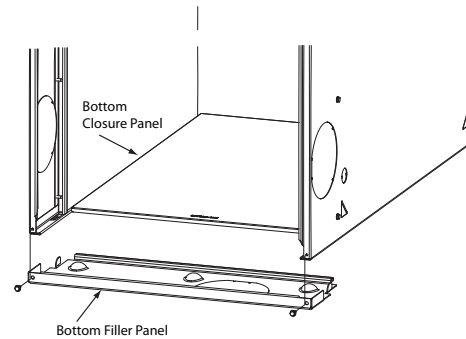

Fig. 9 - Removing Bottom Closure Panel
- Tilt or raise furnace and remove two screws holding bottom filler panel. (See Fig. 9.)
1. Tilt or raise furnace and remove two screws holding bottom filler panel. (See Fig. 9.)